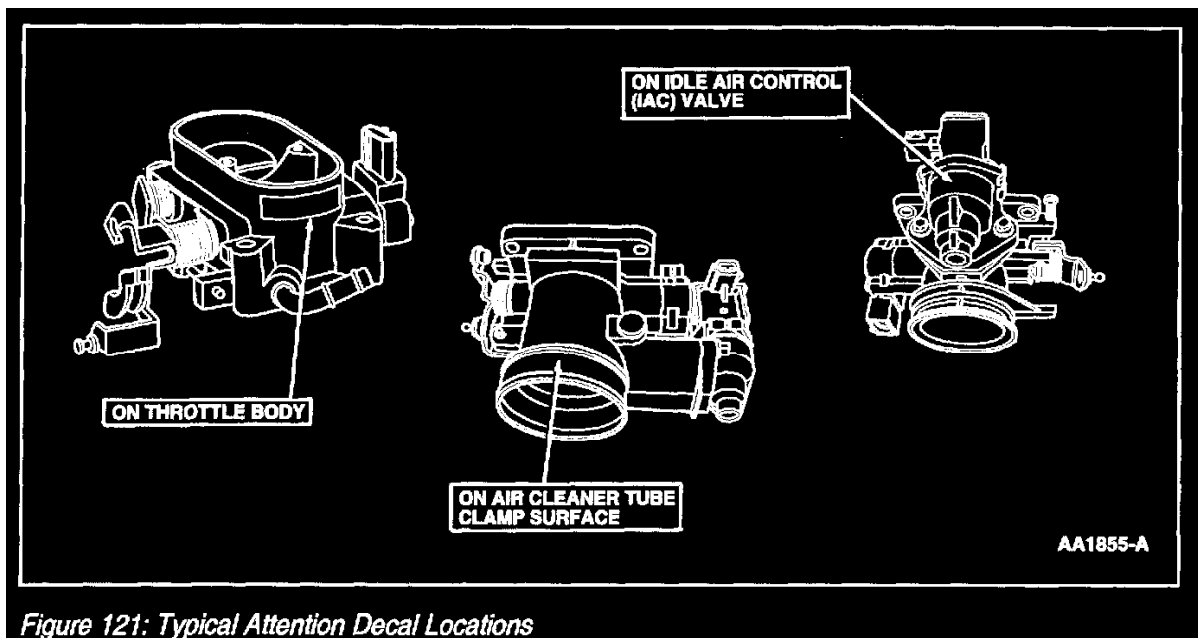

Figure 121: Typical Attention Decal Locations
7. A sealant/coating on the throttle bore and throttle plate makes the throttle body air flow tolerant to engine intake sludge accumulation. These throttle body assemblies **MUST NOT BE CLEANED** and have a white/black attention decal (Figure 121) advising not to clean.